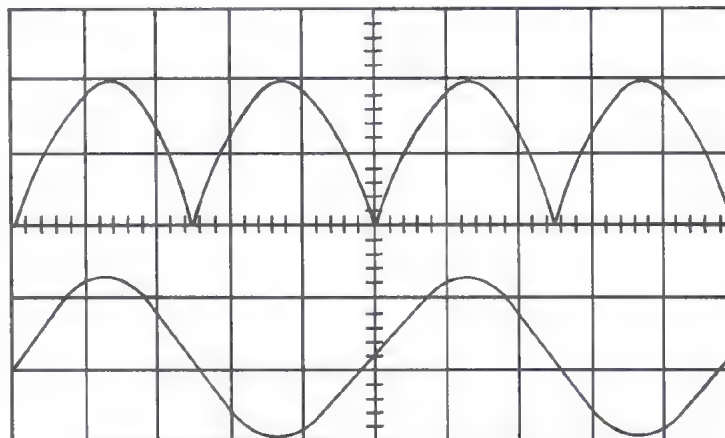

Figure V-2. OUTPUT OF FREQUENCY DOUBLER
- (1) Set the Mode Switch to "EXT. f/2". Apply a 400 kHz sinewave at 1.5 V rms to the Reference "IN/OUT" Jack. Observe the signal at pin 19 with the oscilloscope. The signal should be as indicated in Figure V-2. If the peaks are unsymmetrical, adjust R535 as necessary to obtain proper symmetry.